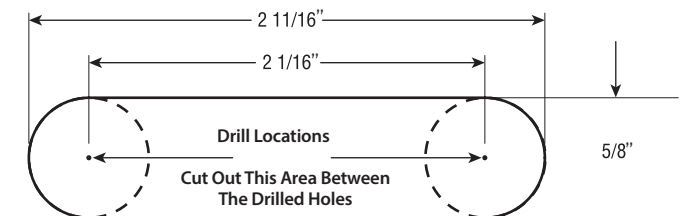

Fig. 2
**Step 2:** Measure the drilling template in Fig. 2 to make sure it matches the dimensions listed on the template. Cut out the drilling template.